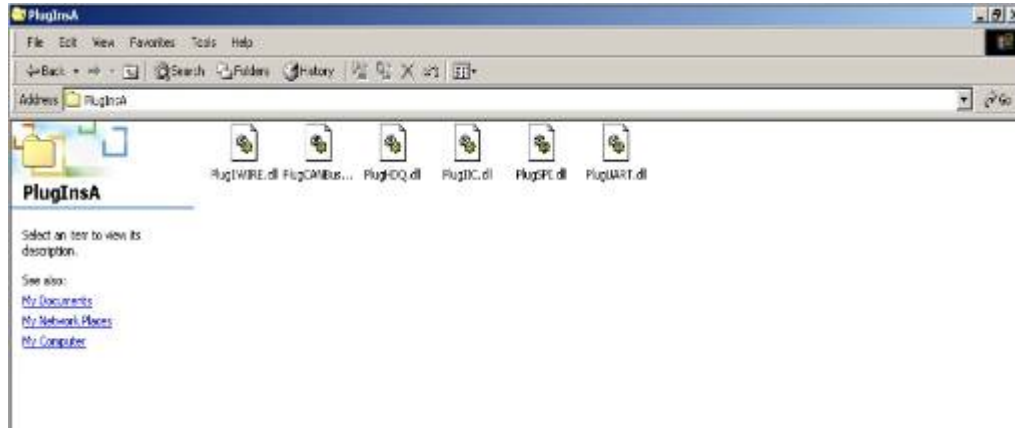

Fig4-33 - PlugInsA
STEP 1. Put the CAN2.0B Plug in the PlugIns as the Fig4-33.